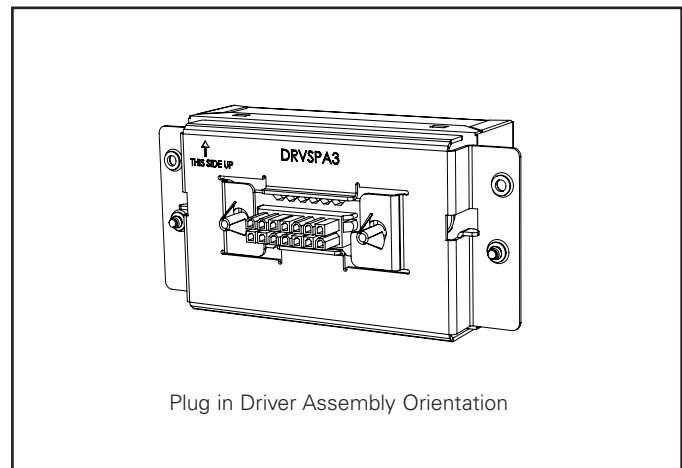

Figure 27.
10. Bring in the new plug-in driver box assembly while ensuring the INSTALL THIS END UP arrow points upwards (Figure. 27).